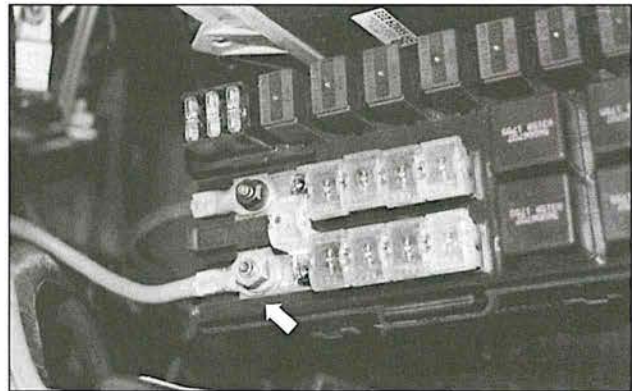

Fig. 22
- b. Remove the cover from the vehicle's Power Distribution Center, and remove the nut from the positive terminal lug (see Fig. 22).